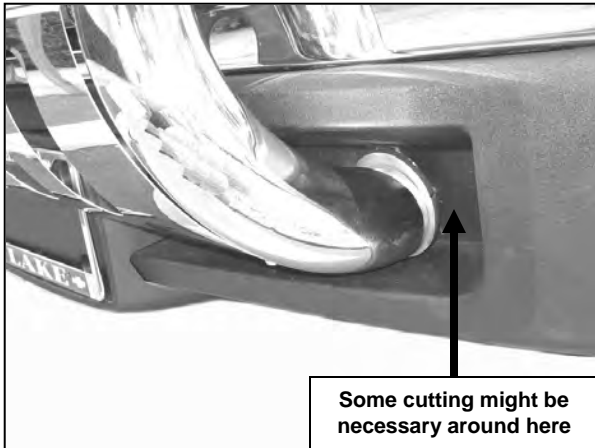

Figure 3
7. With help position Bull Bar assembly on the inner side of Frame Brackets. Attach Bull Bar Brackets to Frame Brackets using the included (4) 10mm x 30mm Hex Head Bolts, (4) 10mm Lock Nuts, (4) 10mm Hex Nuts, and (8) 10mm Flat Washers (**Figure 3 & 4**). Do not tighten at this time.